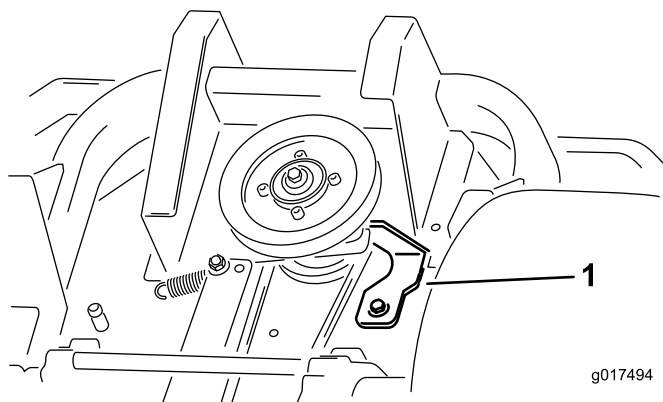

Figure 58
5. Remove the clutch stop shown in Figure 58.
9. Install the clutch stop shown in Figure 58.